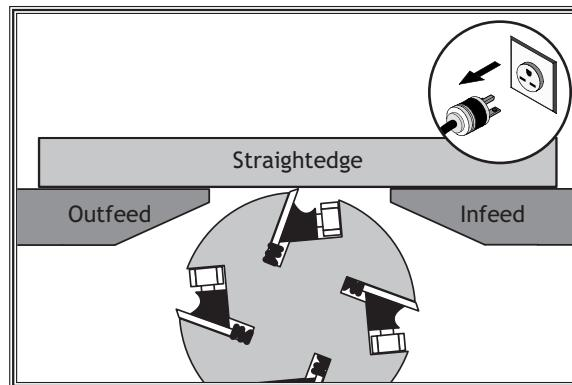

Figure 58. Infeed table even with outfeed table.
3. Use the straightedge to help adjust the infeed table exactly even with the outfeed table, as shown in Figure 58.